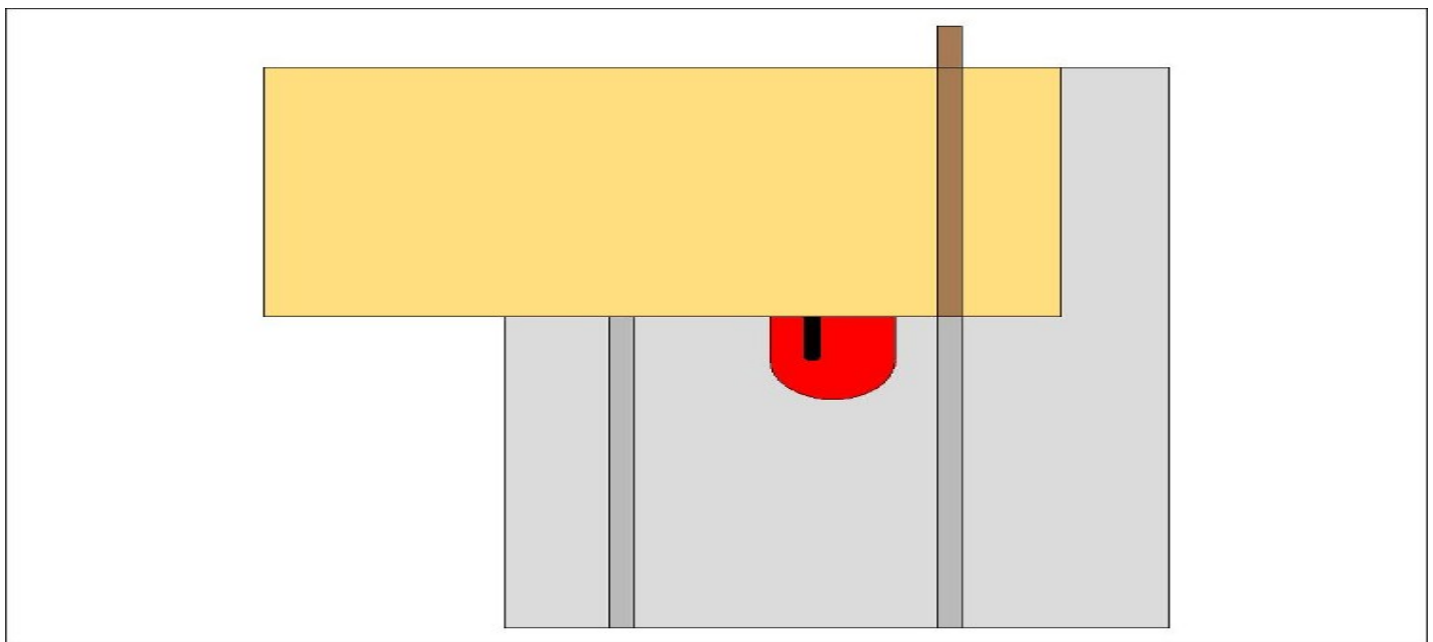

Figure 1 Sled base and right runner.
3. Place a runner in the right miter slot, 2" past the top of the table saw (figure 1).